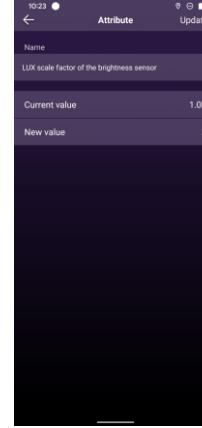
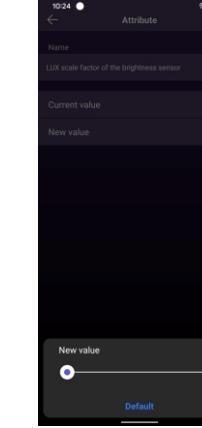

Figure 31
Figure 32
19. The attribute "Lux scale factor of the brightness sensor" is to set the compensation scale factor for the detected brightness in the event that the light sensor is covered and can not fully detect ambient brightness. Tap it to enter setting interface, "Current value" means current compensation scale factor, "New value" is to set a new compensation scale factor, **factory default is 1.0K, which means the reported lux value equals to detected lux value times 1**. Once set a new value, tap "Update" button at upper right corner to save the setting (as shown in **Figure 31 & Figure 32**).